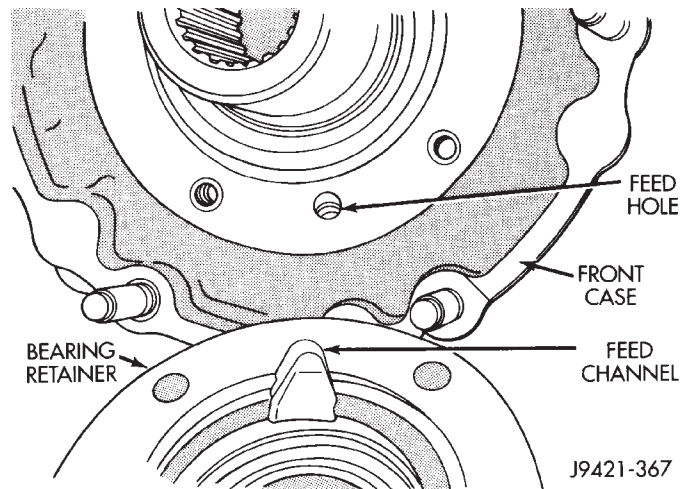

Fig. 45 Aligning Retainer Oil Channel With Feed Hole In Case
(8) Align oil channel in retainer with oil feed hole in case (Fig. 45).